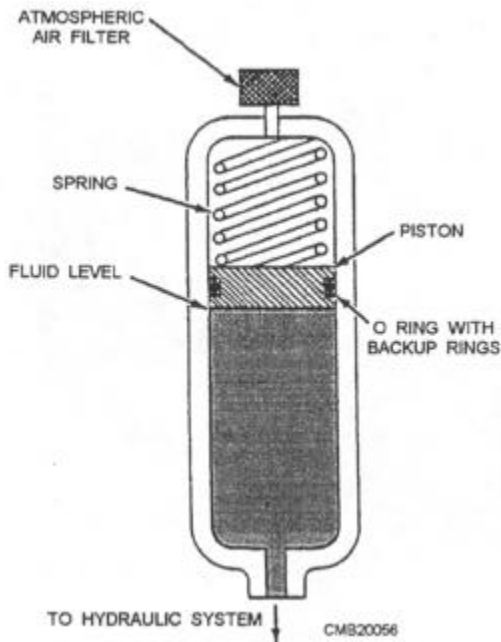

Figure 3-34.—Spring-loaded accumulator.
**SPRING-LOADED ACCUMULATORS.**—The spring-loaded accumulator (fig. 3-34) is very